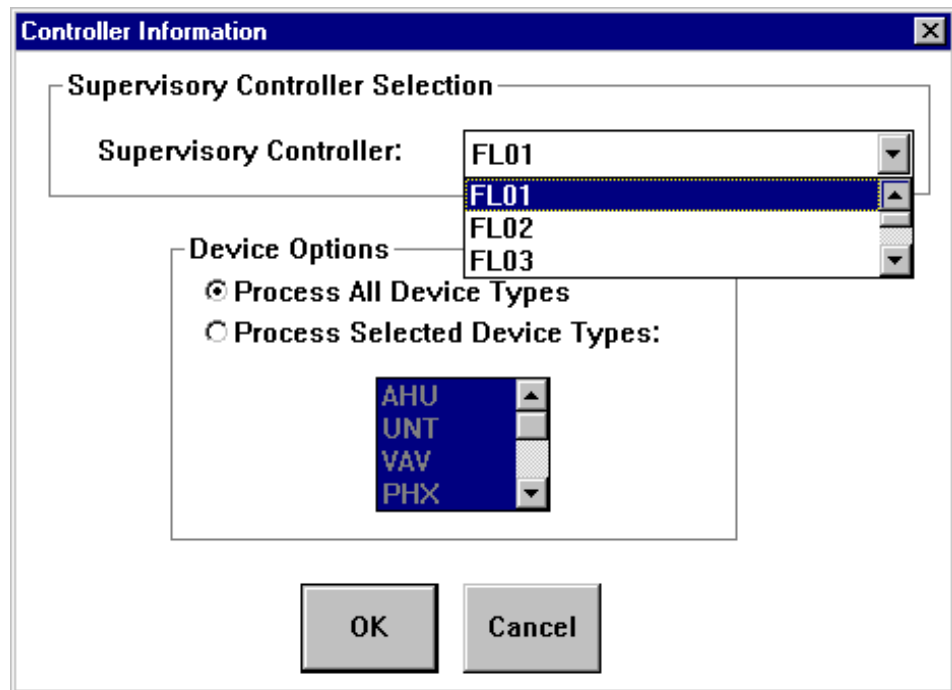

Figure 17-14: Controller Information Dialog Box
2. Select All Devices on selected Supervisory Controller. The Controller Information dialog box appears (Figure 17-14).